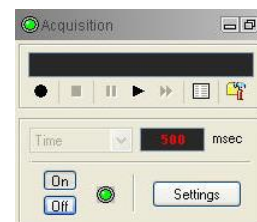

Figure 4-2 Acquisition panel
4. In the **Acquisition** panel (Figure 4-2) select the sampling mode (depth or time). Click on **Settings** and specify the corresponding sampling rate. Switch on the sampling (click the **ON** button).
5. Press the **Record** button in the **Acquisition** panel (Figure 4-2), specify a file name and start the logging.